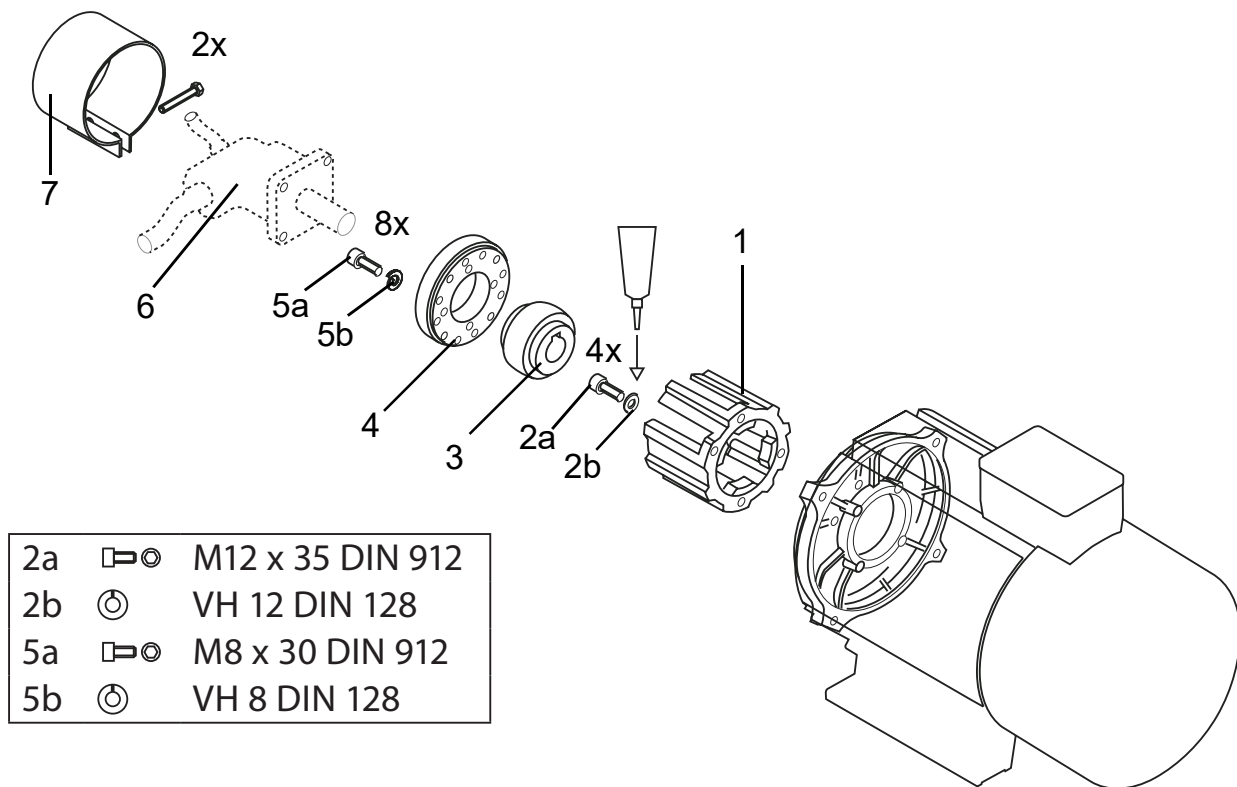

Fig. 24 Assembly of flange mount hydraulic drive (BG 160 model)
- ⇒ **Fig. 24, Assembly of flange mount hydraulic drive (BG 160 model), page 72**